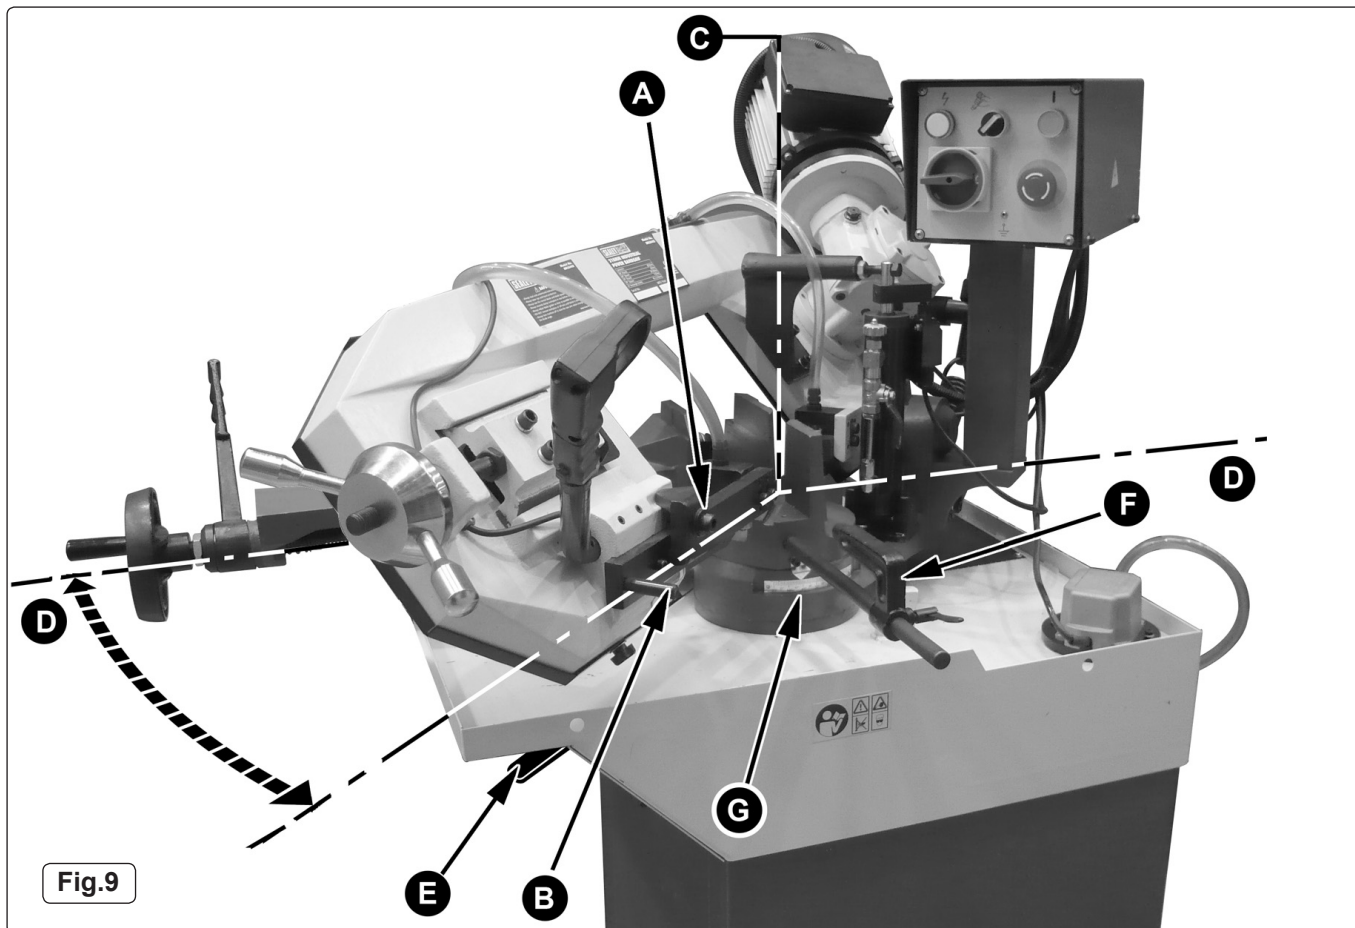

Fig.9
4.5 CUTTING AT AN ANGLE (See Fig.9)
4.5.1 In order to cut at an angle, the vice remains where it is and the whole bow assembly pivots round on the machine bed. Line 'D---D' as shown in Fig.9 above represents the line of the blade before the bow is rotated.
4.5.2 Before the bow can be rotated it must be unlocked by moving the lever on the left hand face of the machine bed 'E' towards the rear of the machine. See also 28 in Fig.4. The bow will now pivot around line 'C' and can be set at any angle between 0 and 45° using the scale mounted around the main pivot seen at 'G' above in Fig.9. Additionally the machine will cut at 60° but the blade must be lifted over an area of solid metal and lowered back into the 60° groove. The area of metal between 45° and 60° is necessary to give adequate support to the workpiece either side of the blade especially on round sections.
4.6.1 Unlock the main pivot by moving the lever 'E' seen in Fig.9 towards the back of the machine bed.
4.8 ADJUSTING THE BLADE GUIDE (See Fig.9)